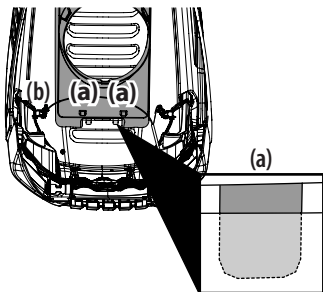

Figure 11
- With the rear tabs installed, insert the front tabs (a) on the plenum (b) as shown in Figure 11.